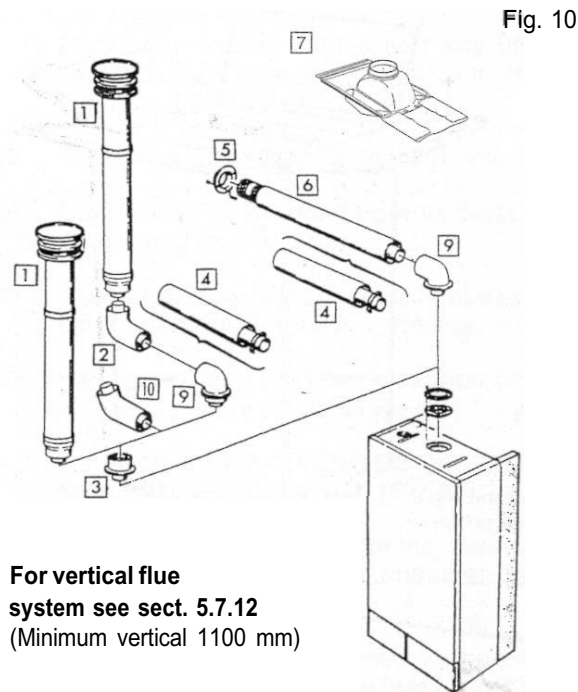

Fig. 12
Flue box containing (Fig. 12):
- d) terminal cover plate (Fig. 12 item 127)
- h) header gasket (Fig. 12 item 56)